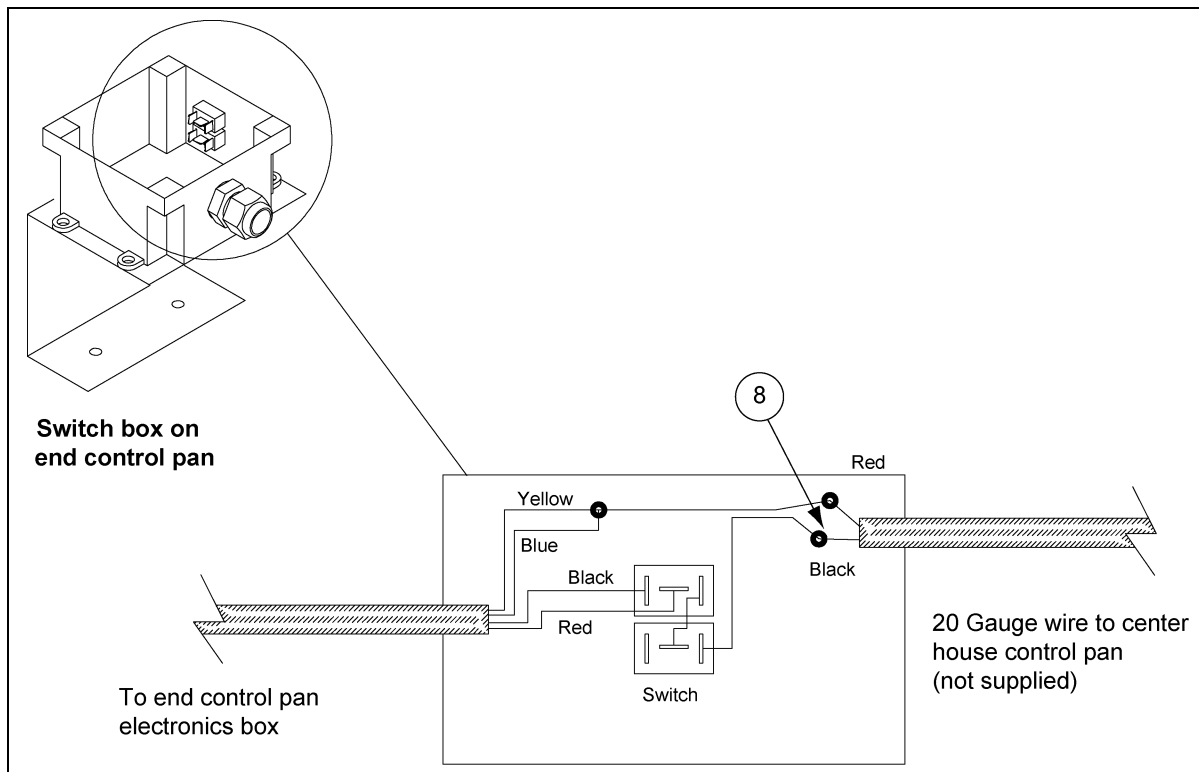

Figure 7CH Wiring Diagram for Switch Box
9. To add a second control pan, run a wire from the second center house control pan to the switch box on the end control pan, as with the first center house control pan. (See Figure 7CI.)